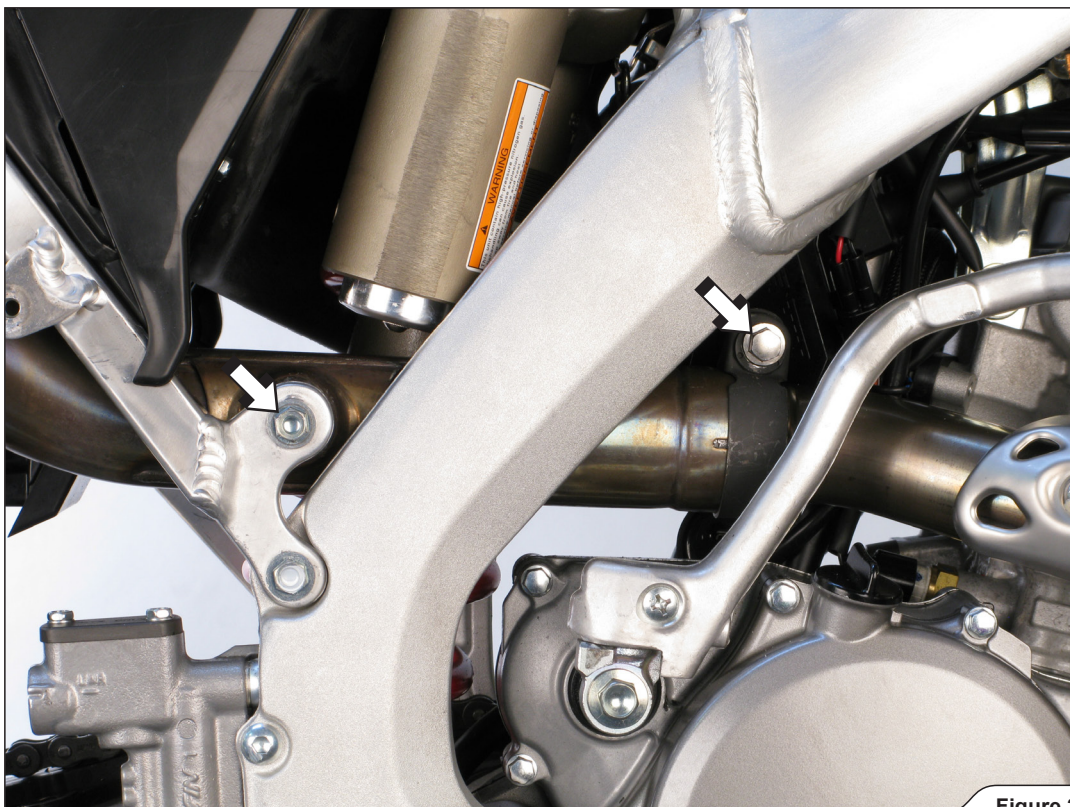

Figure 2
3. Loosen the marked clamp and unscrew the link pipe's bracket bolt (**Figure 2**).